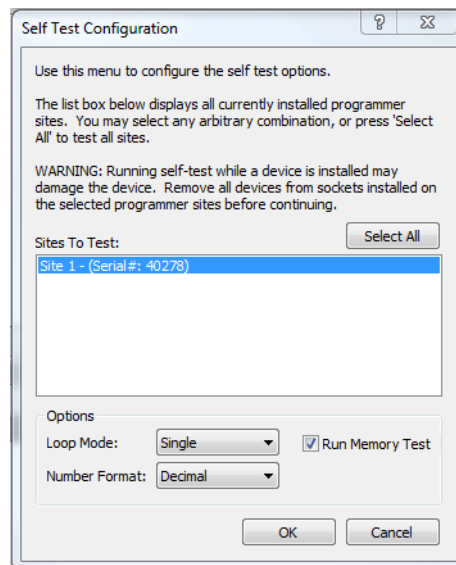

Figure 4: Self Test Configuration Window
8. The **Self Test Configuration** window appears, as shown in Figure 4.